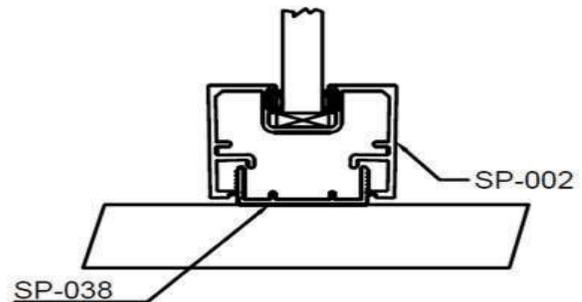

Figure 7: Detail Drawing 6
Step 6: Install base receiving channel and shallow glazing channel at sill (see fig. 7).